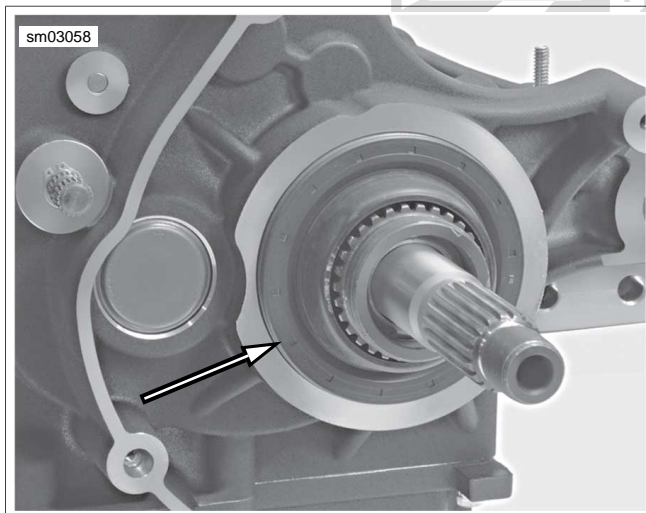

Figure 6-46. Place Main Drive Gear Seal Over Pilot
- See Figure 6-46. Place seal over pilot with garter spring facing bearing, and position seal squarely in end of crankcase bore.